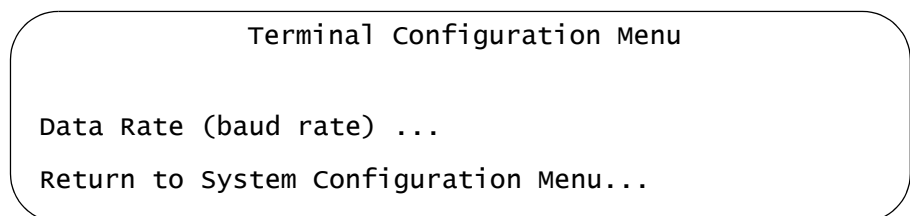

Figure 43. Terminal Configuration Menu
3. From the System Configuration Menu, select **Terminal Configuration**. The Terminal Configuration Menu is shown in Figure 43.